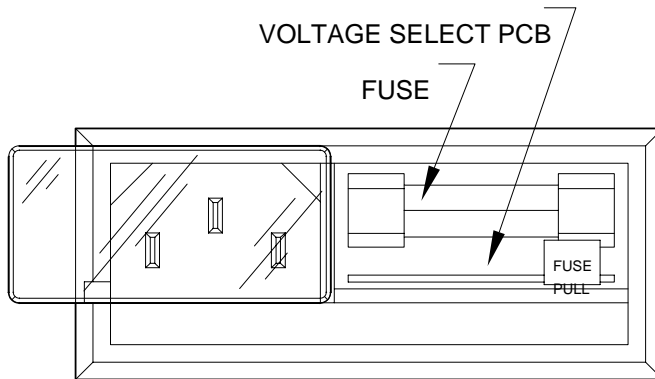

Figure 2-2. Power connector and voltage select.
- b. Slide the plastic window to the left to expose the voltage select printed circuit card (this card is shown in Figure 2-2). The orientation of this card in the connector determines the voltage option.